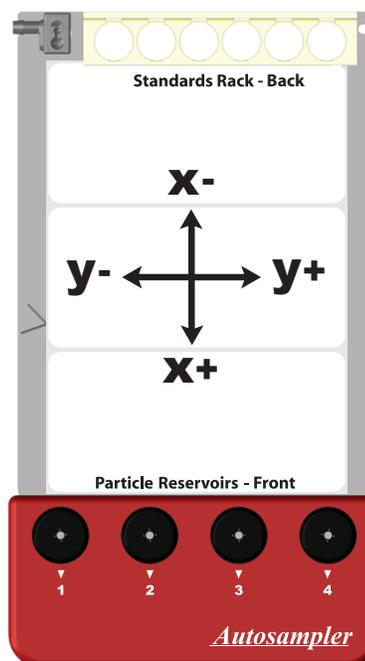

Figure 3. Autosampler X and Y dimensions.
- Figure 3 shows the X and Y dimensions of the Autosampler. Refer to this when changing values from their current position. Z values are vertical, so Z = 0 is in the up position and Z > 0 indicates downward movement of the sipper tube.